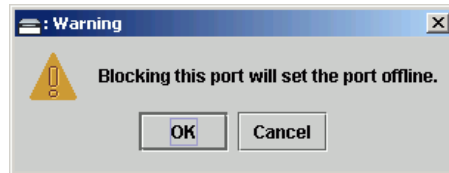

Figure 4-35 Warning Dialog Box
6. Select the *Block Port* menu option. A *Warning* dialog box displays (Figure 4-35).